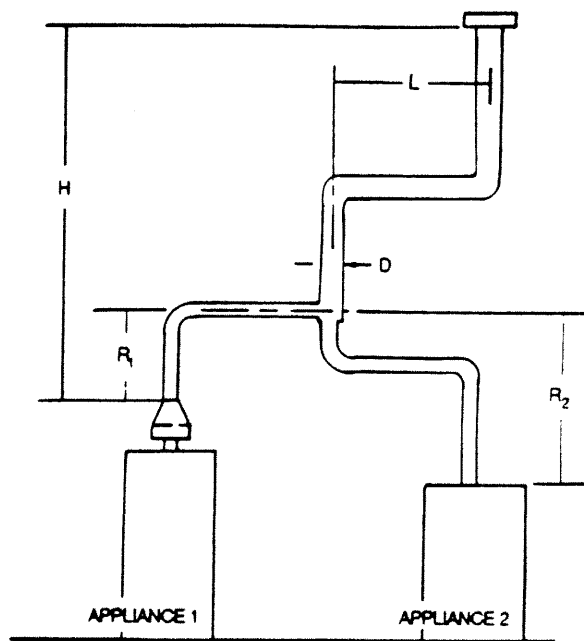

FIGURE 14
6. If the common vertical vent is offset as shown in Figure 14, the maximum common vent capacity listed in the common venting tables should be reduced by 20% ( $0.80 \times$  maximum common vent capacity).